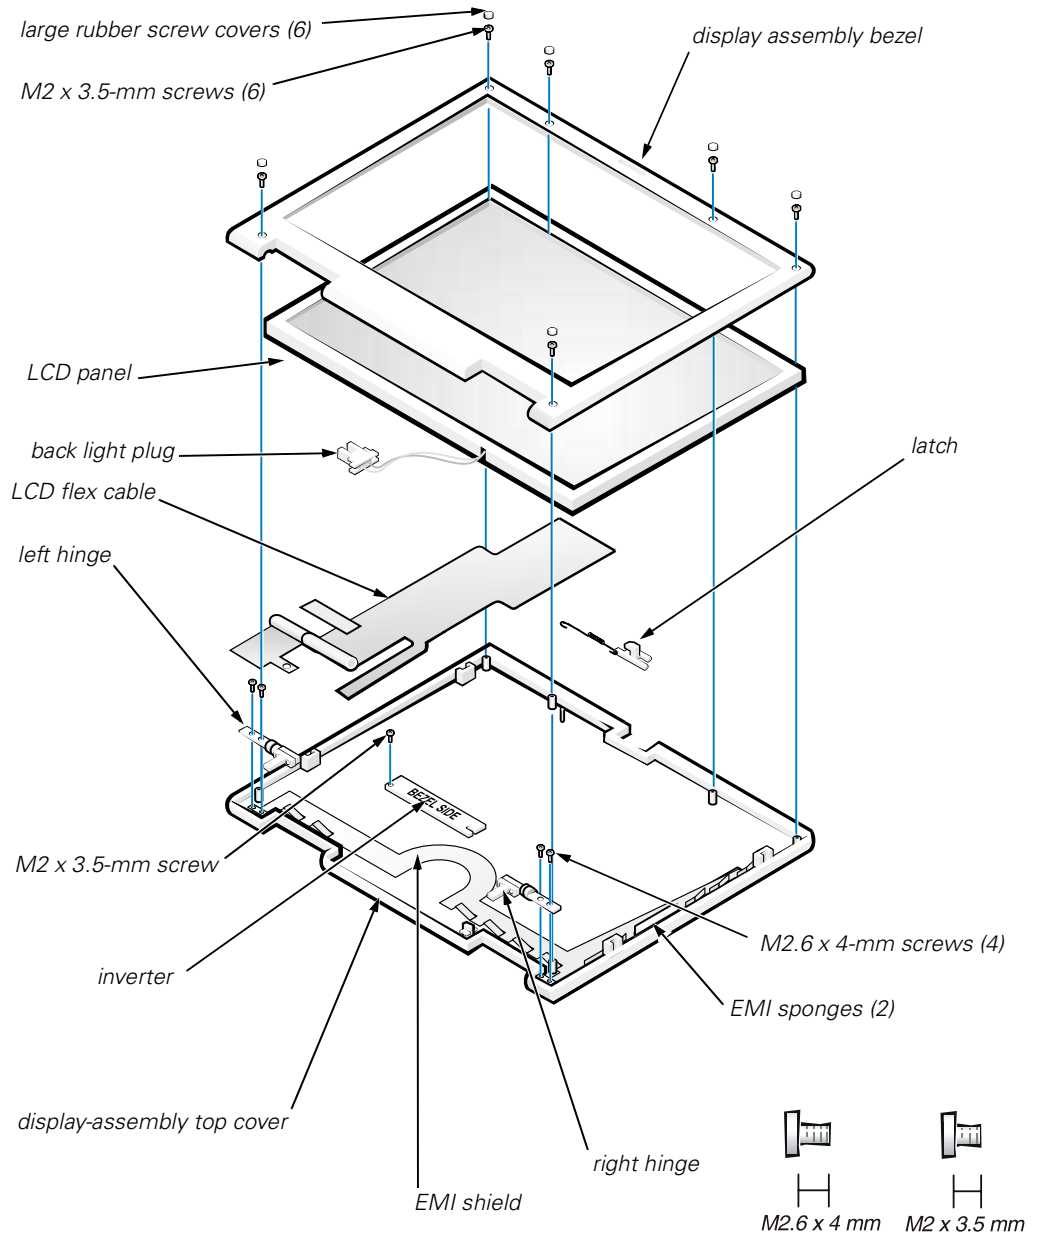

Figure 9. Display Assembly Bezel Removal
1. Use a scribe to carefully pry the six rubber screw covers out of the six screw holes located along the top and bottom of the bezel on the front of the display assembly (see Figure 9).
2. Remove the six M2 x 3.5-mm screws located at the top and bottom of the bezel on the front of the display assembly (see Figure 9).
4. Remove the two M2.6 x 4-mm screws that secure the left hinge to the top cover (see Figure 9).
2. Remove the four M2 x 4-mm screws located across the top of the keyboard assembly (see Figure 9).